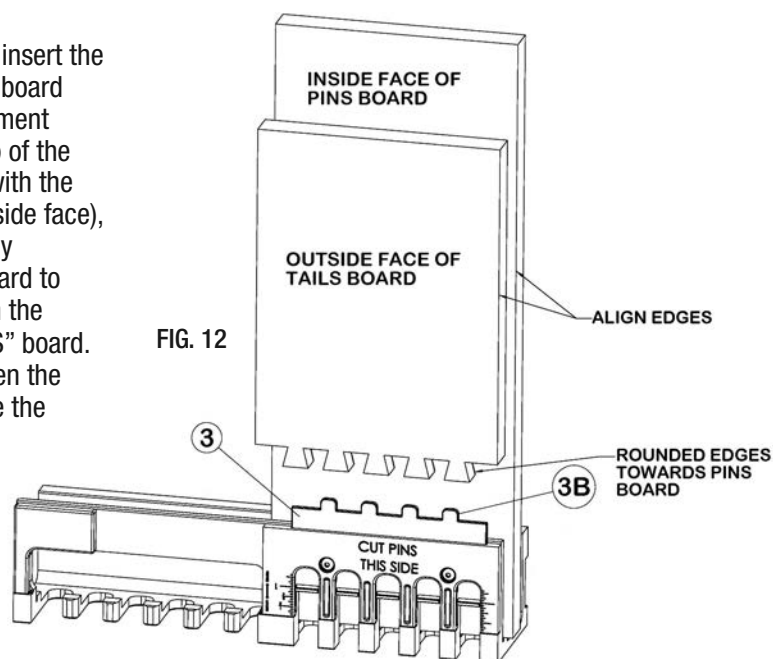

FIG. 12
9. To align the edges, insert the tails of the “TAILS” board into the Edge Alignment Teeth (3B) on the top of the Adjuster plate (3) with the rounded side in (inside face), and slide the loosely clamped “PINS” board to align its edges with the edges of the “TAILS” board. Now securely tighten the clamps and remove the “TAILS” board (FIG. 12).